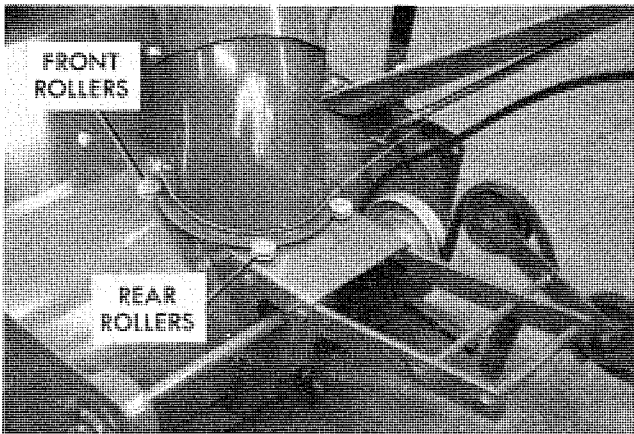

Figure 1
1. Install the mounting frame assembly by inserting the end with the four bolt holes into the blower housing frame. The arms should extend slightly upward from the blower housing as shown in figure 1. Use the bolts and nuts provided to secure in place.
2. The shroud assembly is held by four rollers on top of the blower housing as shown in figure 1. To install the shroud, loosen and slide the two rear rollers back, fit the collar of the shroud into the front roller grooves, and move the rear rollers forward to fit snugly against the collar. Tighten the bolts, making sure the shroud rotates freely.
3. Locate the crank rod assembly (22), crank rod support (18), decal support (18A), crank rod bushing (21), crank rod spring (24), and two crank rod washers (25).